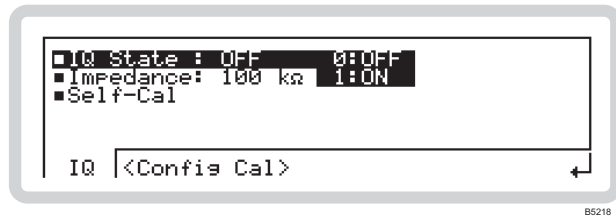

Fig. 3-26 External IQ
- 2 Press to show the main screen, and touch the soft box to select the function. Touch and press to view the external IQ modulation menu (Fig. 3-26).